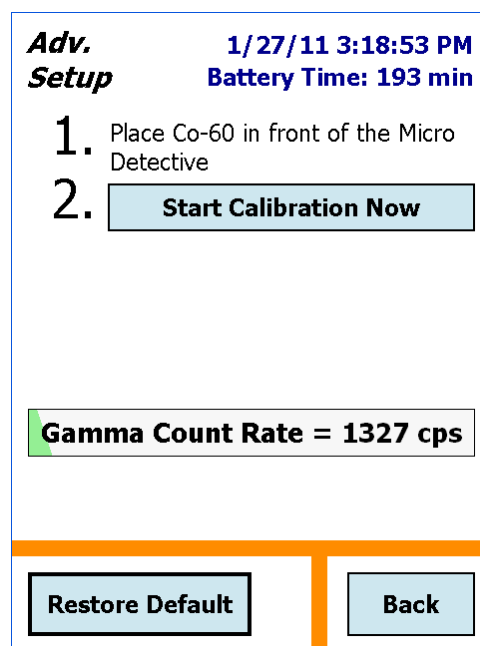

Figure 12. Tap the “Start Calibration Now” Button.
- Position the indicated source (in our example, a user has defined and selected a ^{60}Co source) in front of the detector window, then tap the **Start Calibration Now** (Fig. 12) button.